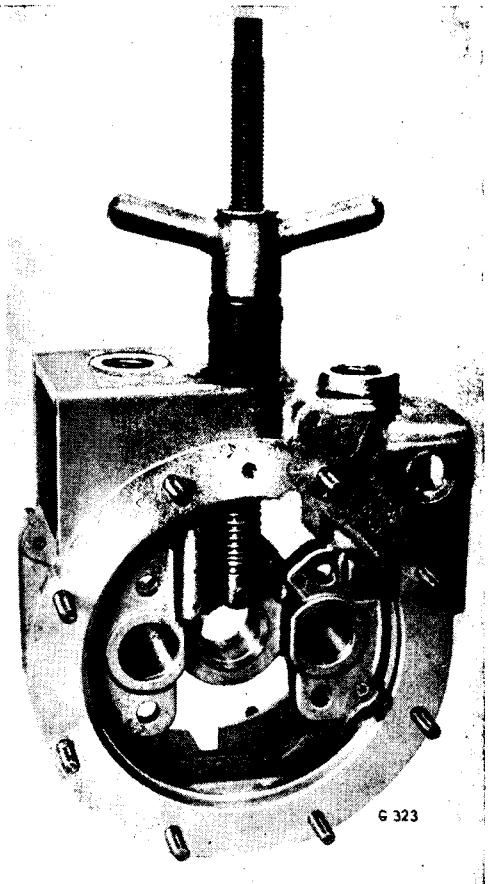

Fig. 19.
Remove the pump plug (42), non-return valve spring (40) and ball (39), and the pump locating screw (33). Unscrew the non-return valve body (38) using tool L 213. Using tools L 183A, L 183A2 and adaptor L 205, extract the pump body as follows (Fig. 19):—